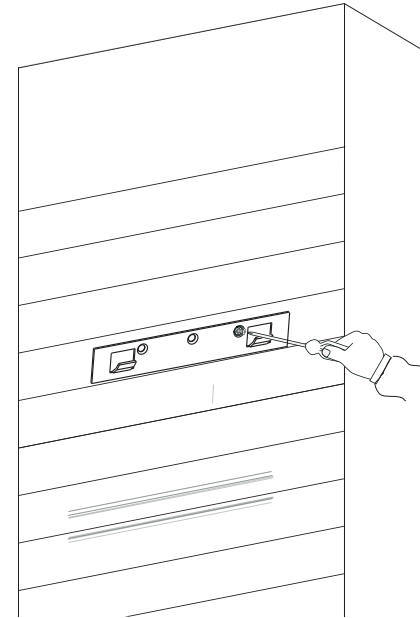

Fig.6
- Install the wall bracket with screws to the wall as marked(Fig.6) .